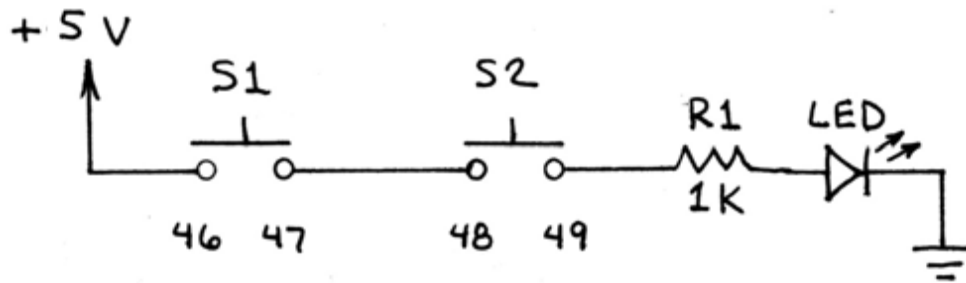

Figure 6.1. Series Switch AND Logic
1. Wire the switch and LED circuit of Figure 6.1 (similar to Workbook #2 pg. 14 but using a regulated +5 volt source).